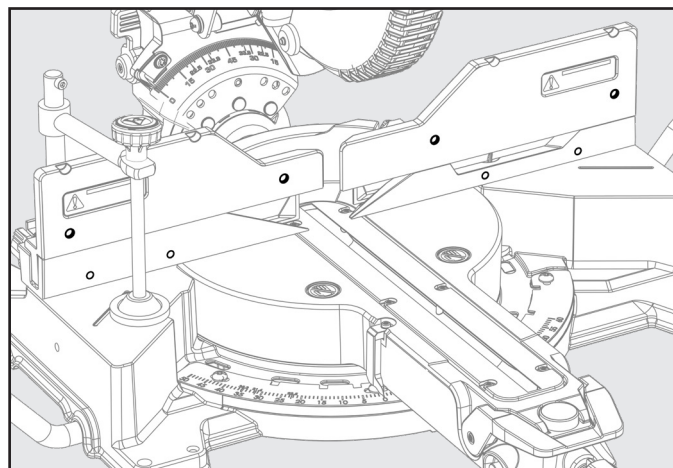

Figure 37
See Figure 37.
1. Place auxiliary fence wood against miter saw fence. See Figure 37. The maximum height for this wood **MUST NOT** exceed 5.5 inch. Check to make sure auxiliary fence does make contact with saw head, check with saw head in the full DOWN and fully RETRACTED position.